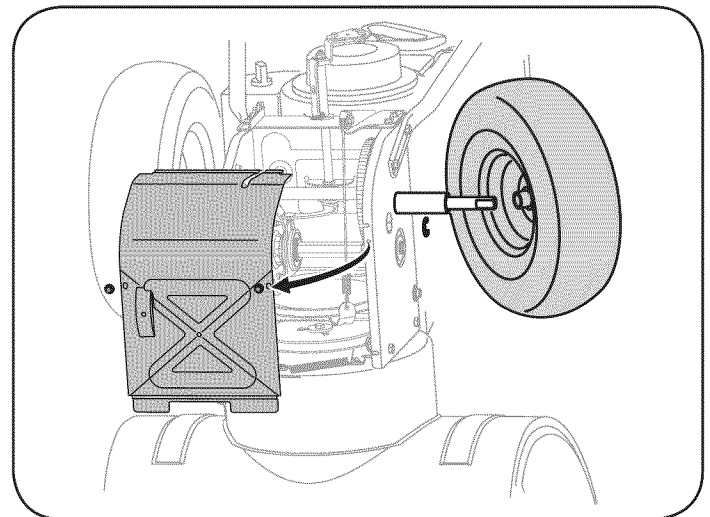

Figure 29
- Remove the right-hand wheel by removing the screw and bell washer which secure it to the axle. See Figure 29.